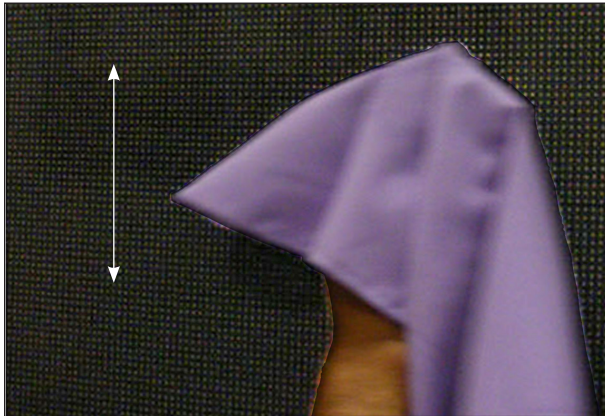

Figure 4: Wipe Module Up-and-Down
4. Repeat **Step 2** and **Step 3** in a left-to-right motion. Refer to **Figure 4**.